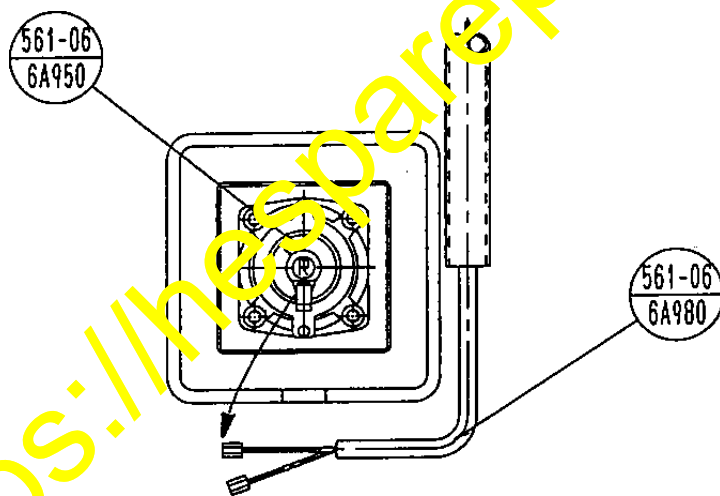

Fig. 1
- 2) Disconnect the harness (561-06-6A980) from the transmitter (561-06-6A950). (Refer to Fig. 1.)